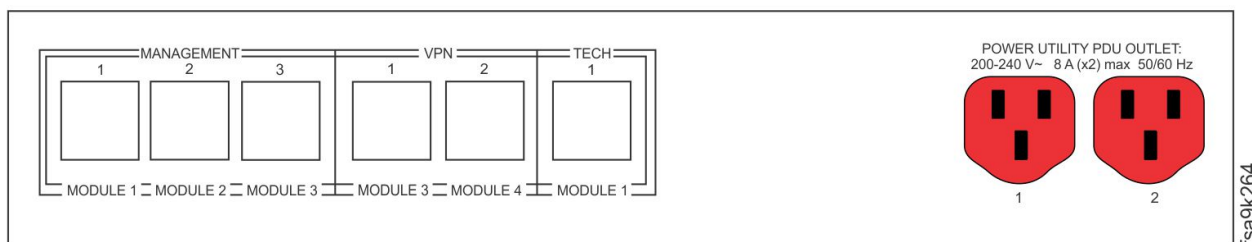

Figure 31. Utility patch panel – models 425 and U25
- Figure 31 illustrates the utility patch panel for models 425 and U25.